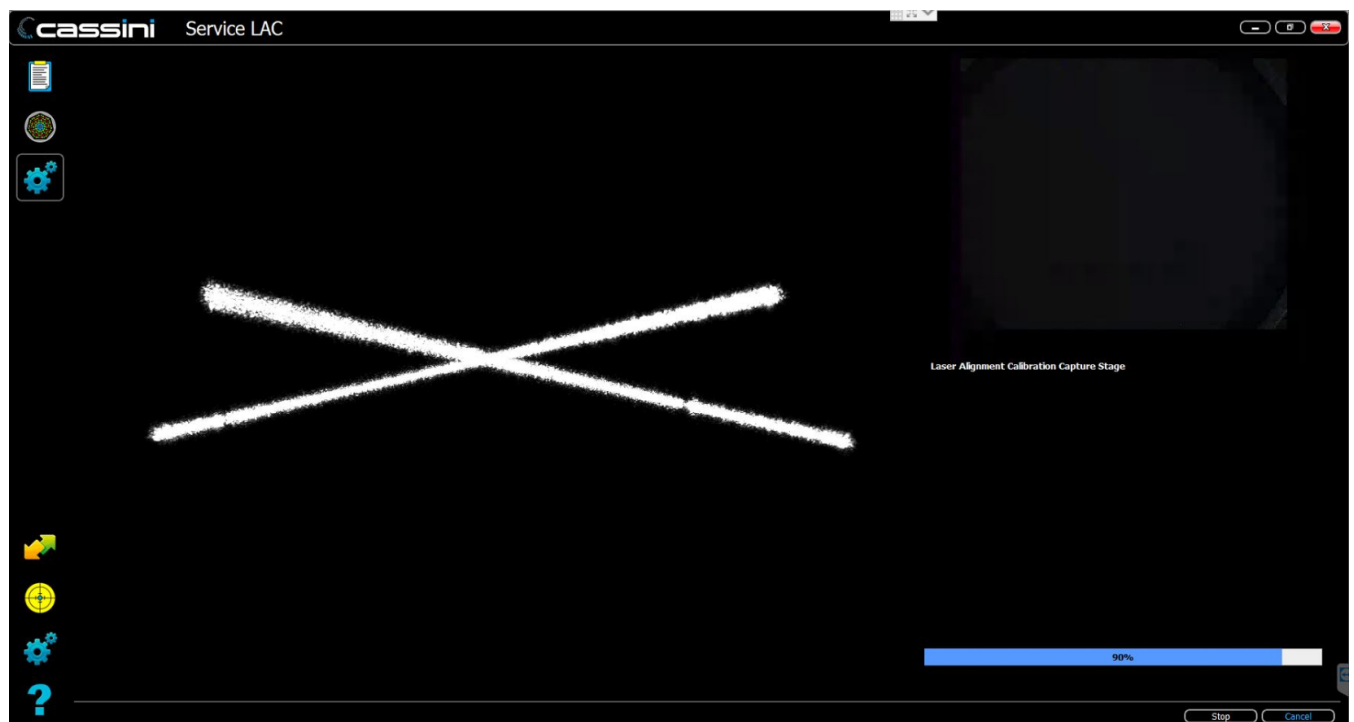

Figure 60
4. The alignment of Cassini in front of the calibration tool is correct if (Figure 60):